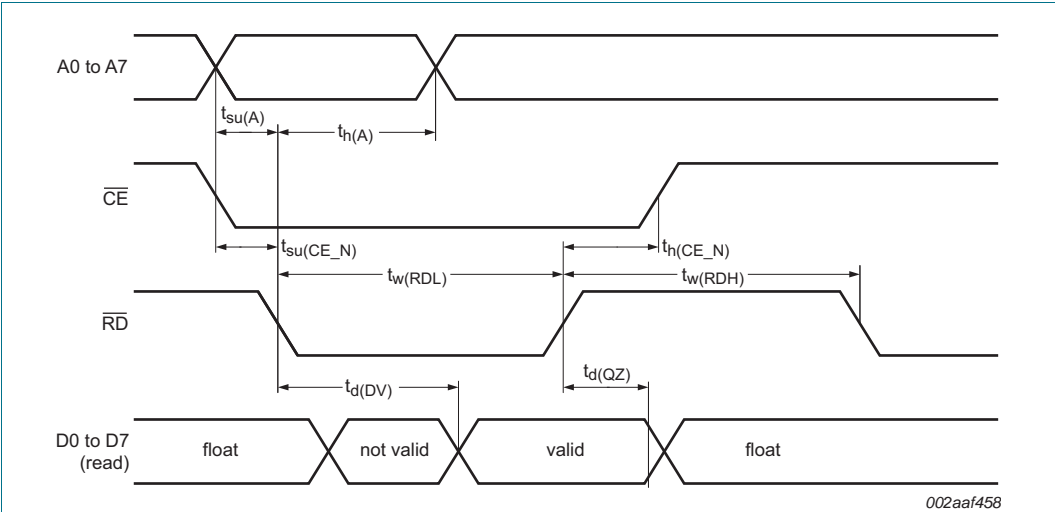

Fig 27. Bus timing (read cycle)
Bus timing (see Figure 27 and Figure 29)
- [2] All voltage measurements are referenced to ground (V_{SS}). For testing, all inputs swing between 0 V and 3.0 V with a transition time of 5 ns maximum. All time measurements are referenced at input voltages of 1.5 V and output voltages shown in Figure 27 and Figure 29.